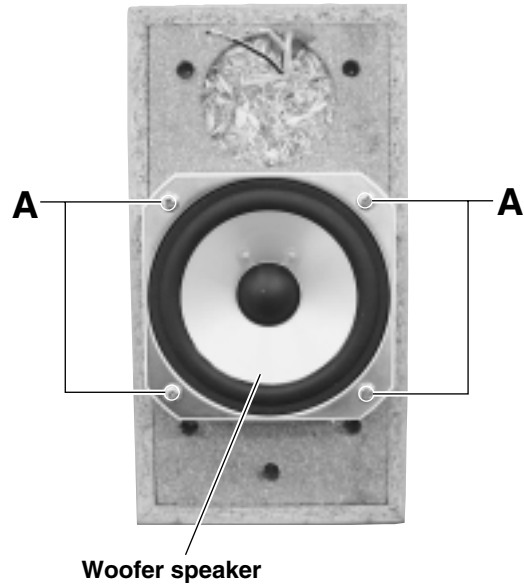

Fig.4
■ Removing the woofer speaker (See Fig.4)